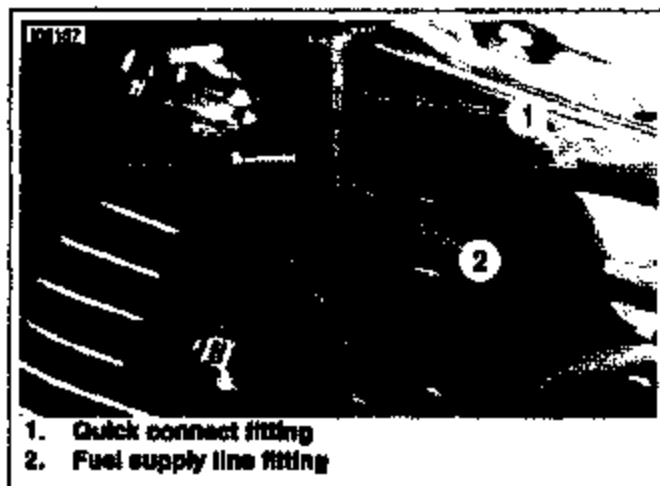

Figure 2. Fuel Supply Line Fitting - Fuel Tank
8. See Figure 2. Pull up on chrome sleeve of quick-connect fitting (1) and pull down on fuel supply line fitting (2) to disconnect.
2. See Figure 2. Pull up on chrome sleeve of quick-connect fitting (1) on left side of tank and insert neck of fuel supply line fitting (2). While pushing up on bottom of fuel supply line fitting, pull down on chrome sleeve until it "clicks" into the locked position. Tug on fuel supply line to be sure that it will not come free.